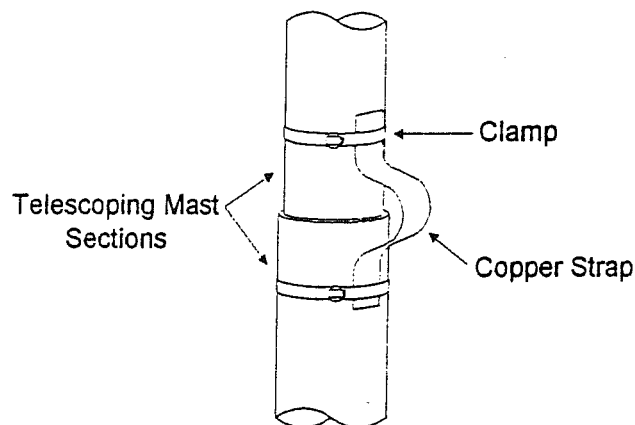

Figure 8-11
- The areas where the telescoping mast sections slide together must be bonded with a copper strap. Use a joint compound between the copper and the galvanized material of the mast. See Figure 8-11. Special clamps for this application are made by PolyPhaser and should be used for long-term sites. These clamps are designated T.K. Series and are made to provide a good electrical connection without inducing corrosion.